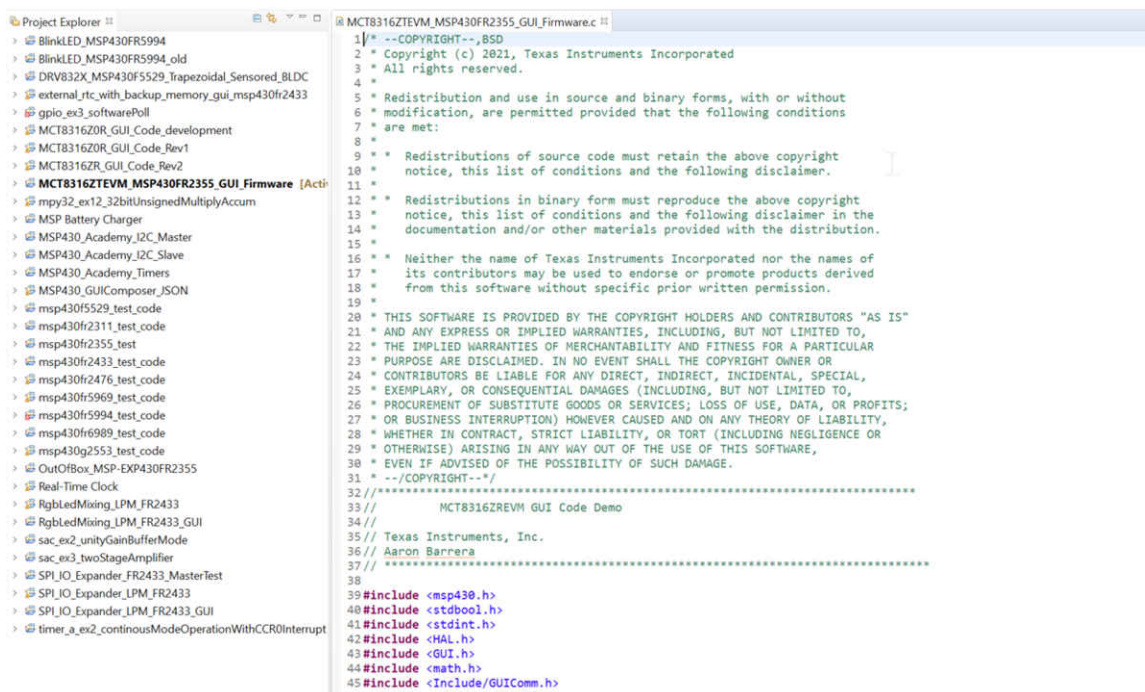

Figure 6-1. MCT8316ZTEVM GUI Code in Code Composer Studio
6. Import the project “MCT8316ZTEVM_MSP430FR2355_Firmware_GUI” into your workspace as shown in Figure 6-1.